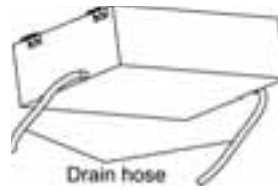
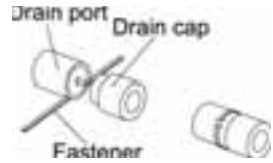

Fig. 4.23
Fig. 4.25
- (5). Use a suitable drain hose, and see Table 3.3 for size.
- (6). There is a drain port on both the left and right sides. Select the drain port to match your installation (Fig. 4.23).
- (7). When the unit is shipped from the factory, the drain port is defaulted to be the one on the left side (electric box side), the port on right side has been plugged.
- (8). When using the drain port on the right side of the unit, reinstall the drain cap to the left side drain port (Fig. 4.25).